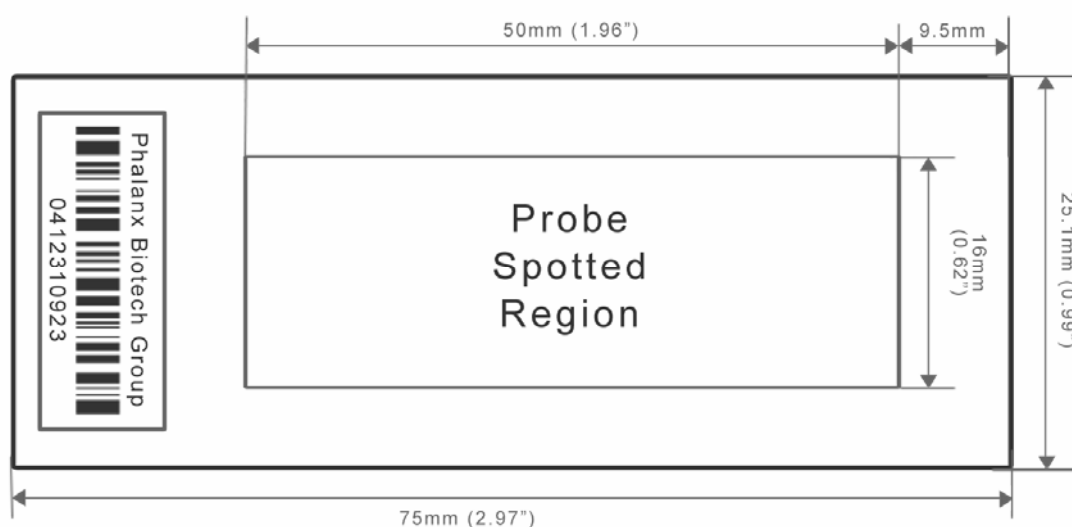

Figure 1: OneArray Microarray Glass Slide with “Probe Printed Region Guide” Plastic Underlay
- 8) Place the OneArray slide, bar code up, atop the “Probe Printed Region Guide” (included, see Figure 1).